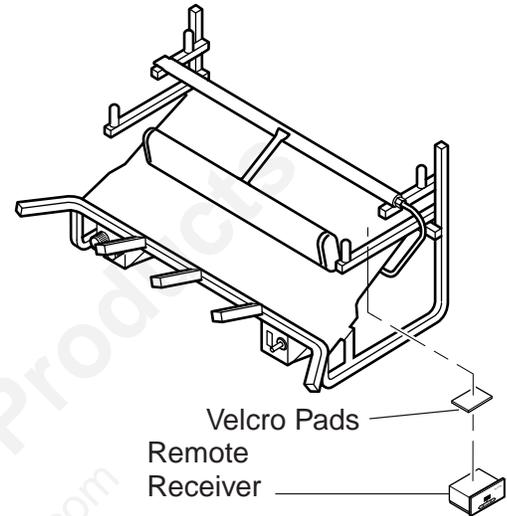

Figure 20 - Installing Remote Receiver
6. Remove the hearthmount coverplate on the remote receiver. (Battery pack must be temporarily removed prior to removing the cover plate). Stick velcro pads with self-adhesive backing to top of remote receiver and to the underside of the unit. Refer to Figure 20.